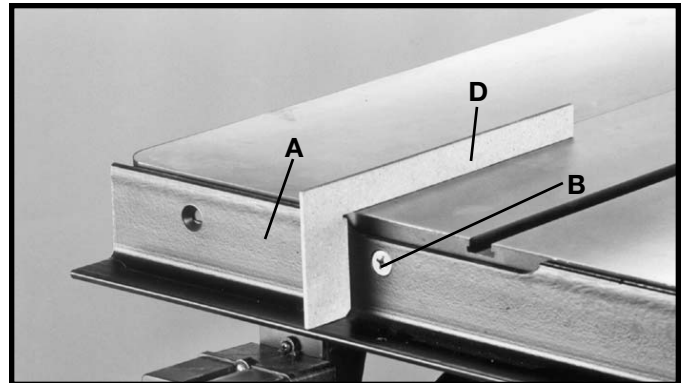

Fig. 89
2. Using template (D) Figures 89 and 90, to check and adjust front rail at both ends of the saw table as shown, to make sure rail (A) is parallel with table surface and tighten rail mounting hardware (B). **IMPORTANT:** Template (D) must be on the saw table when checking, not on extension wing.